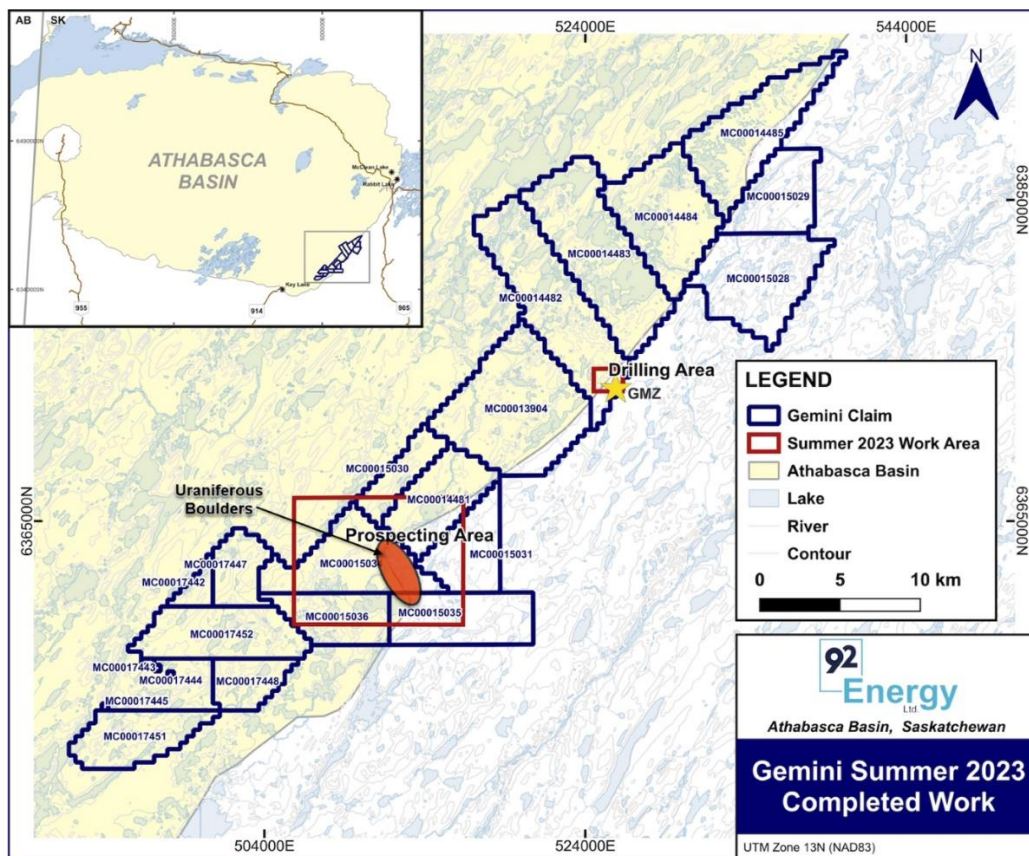

Figure 1: Gemini project claims and the summer 2023 work areas
- Assays confirm uranium and high-grade copper mineralisation along a new parallel zone, 300m east of the GMZ (Figure 1):
Prior to the start of the summer 2023 drill program, the 92 Energy technical team conducted a reconnaissance mapping and sampling program focusing on the southwestern claims of the Gemini project (Figure 1). During the sampling program, the team discovered several radioactive boulders located approximately 18km to the southwest of the GMZ. The most radioactive boulder measured approximately 35,000 CPS2 on the handheld RS-125 scintillometer. A representative assay sample of the highly radioactive boulder returned 0.39% U3O8 (3,940ppm).